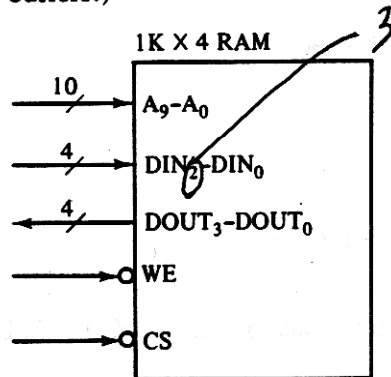

Figure 6.42 Memory module for Problem 6.22.
- 6.22. Realize the memory module of Fig. 6.42 by using a $1K \times 4$ RAM, as shown in Fig. 6.23, and any additional logic that is necessary. Note that the bidirectional data lines of the $1K \times 4$ RAM become two sets of data lines, DIN and DOUT. (Hint: Use three-state buffers.)